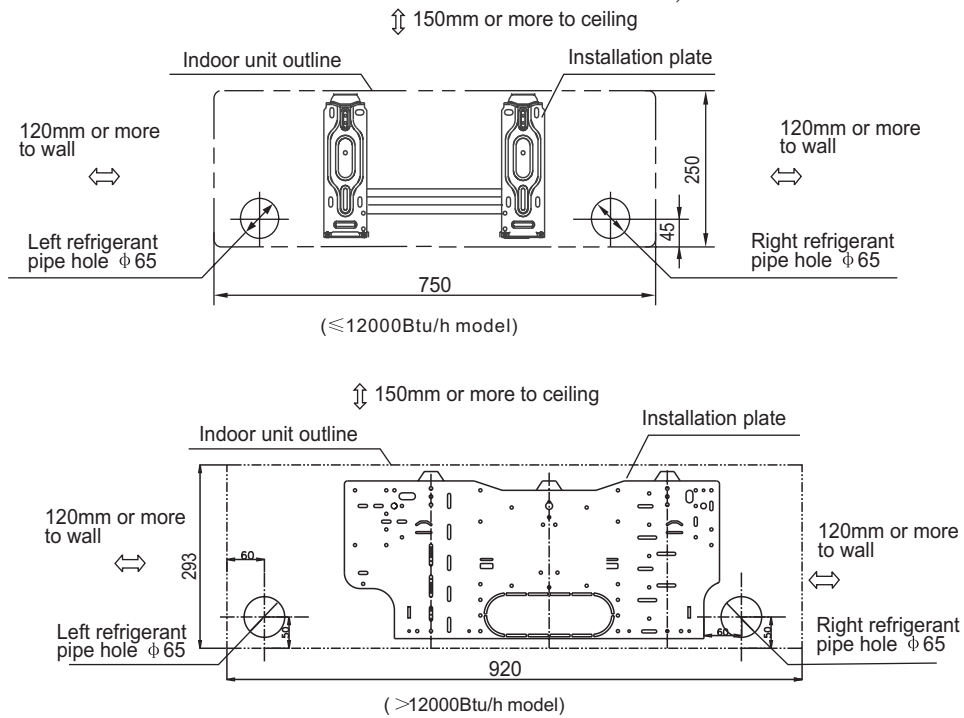

Fig.5
1. Determine hole positions according to the diagram detailed in Fig. 5. Drill one (1) hole ($\phi 65\text{mm}$) slanting slightly to outdoor side.